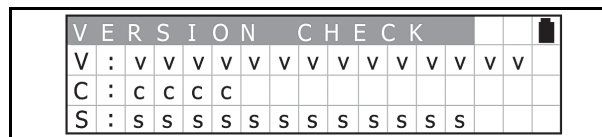

Figure 34 Version, CRC & Serial Number Screen
4. Press the OK Key to display the Version, CRC and Serial Number Indication Screen (See Figure 34). Press the CLR Key to return to the previous Function Selection Screen.